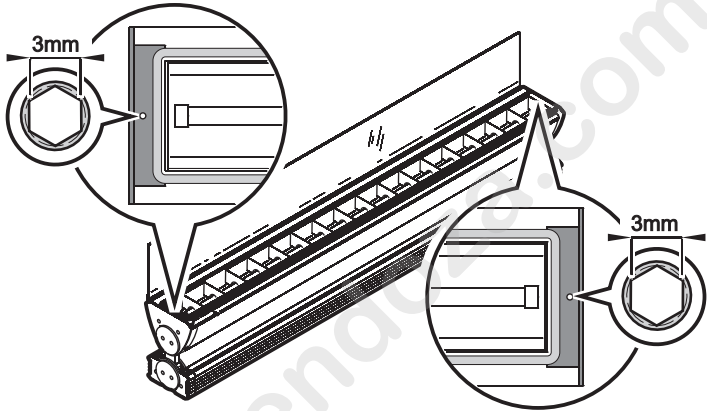

Figure 7: Tube module tilt adjustment screws
2. See Figure 7. Loosen both the tilt adjustment screws with a long Allen key, rotate the tube module to the desired angle, and retighten.